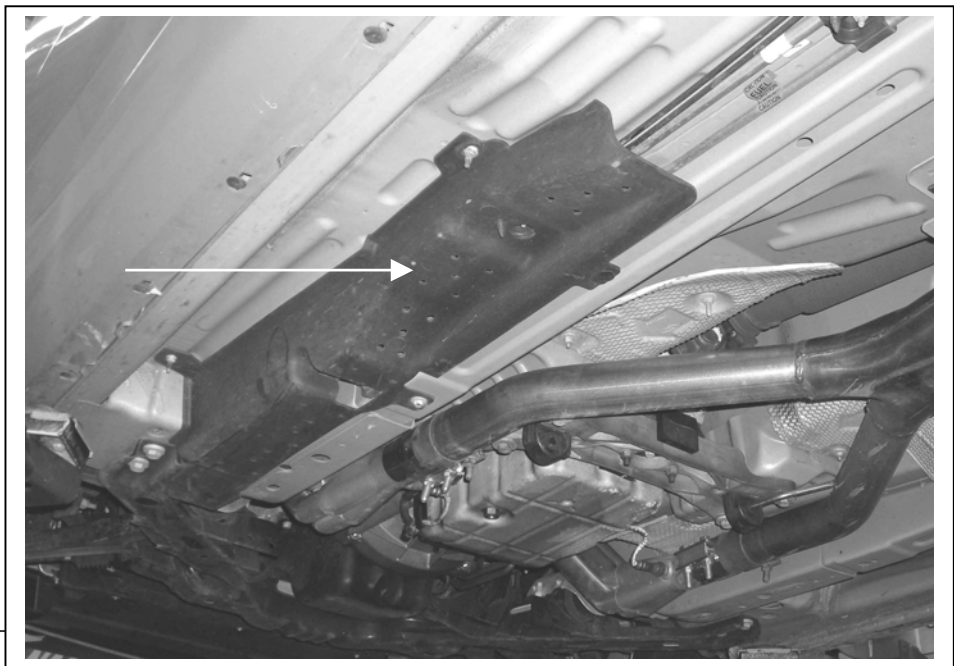

Fig 2. Fuel/brake line cover. Remove and properly store cover and hardware. You will need these later.
4. Remove the fuel/brake line cover (on driver's side). See Fig 2